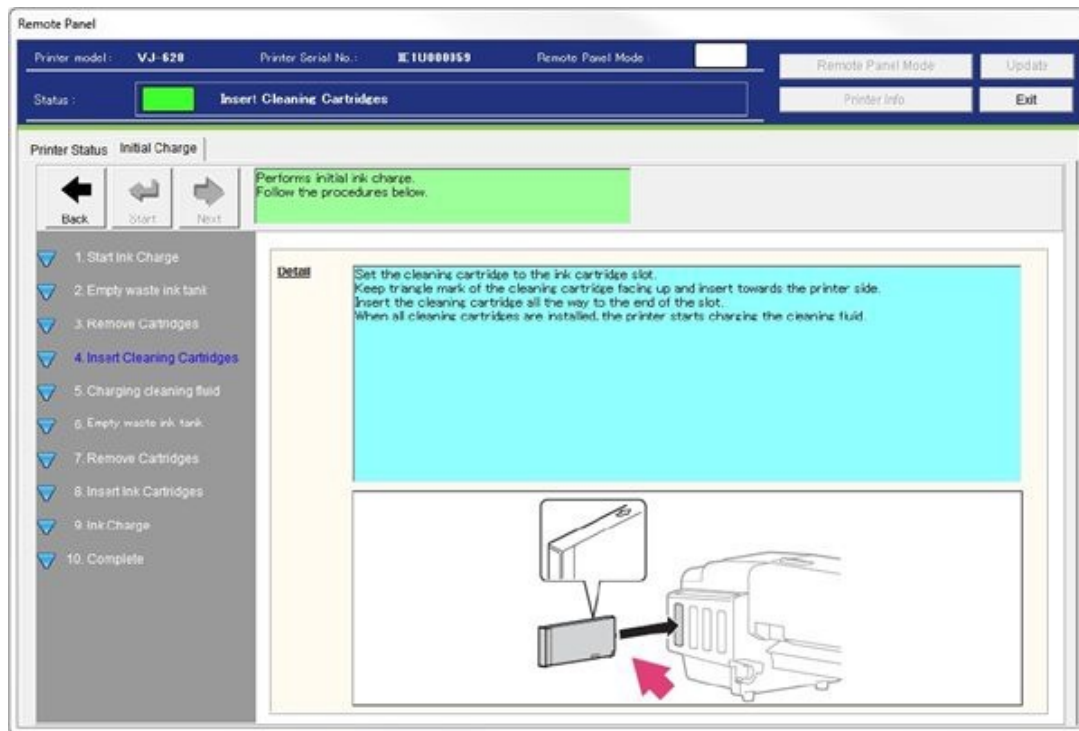

Figure 55
42. Insert the cleaning cartridges into the printer. See Figure 55.